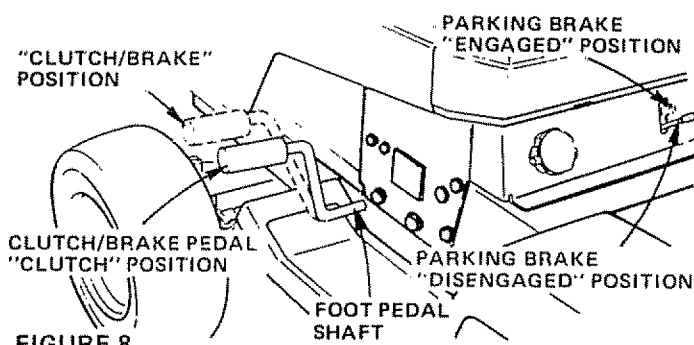
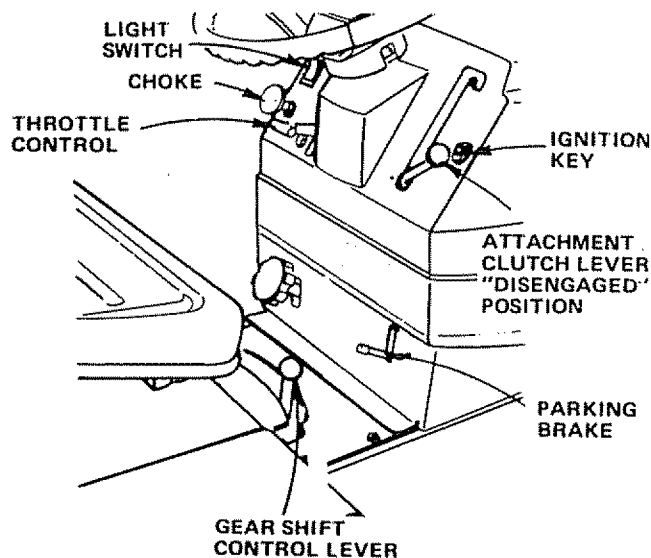

FIGURE 8
FIGURE 9
1. Place Attachment Clutch Lever in "DISENGAGED" position (Fig. 9).
2. Push Clutch-Brake Pedal fully into brake position (Fig. 8).
3. Place Gear Shift Control Lever in "N" neutral, start position (Fig. 9).
4. Pull Choke out (Fig. 9).
5. Move Throttle Control to middle position (Fig. 9).
6. Turn Ignition Key to "START" position until Engine starts (Fig. 9). NOTE: DO NOT RUN STARTER CONTINUOUSLY FOR MORE THAN FIFTEEN SECONDS PER MINUTE. If engine does not start after several attempts, move Throttle Control to "F" (fast) position, wait a few minutes and try again.
2. Push Clutch-Brake Pedal down firmly (Fig. 8). Move Gear Shift Control Lever to desired gear (Fig. 9).
For pushing or towing your tractor, place Gear Shift Control Lever to "N" neutral position (Fig. 9). NOTE: DO NOT TOW YOUR TRACTOR FASTER THAN SIX MILES PER HOUR.